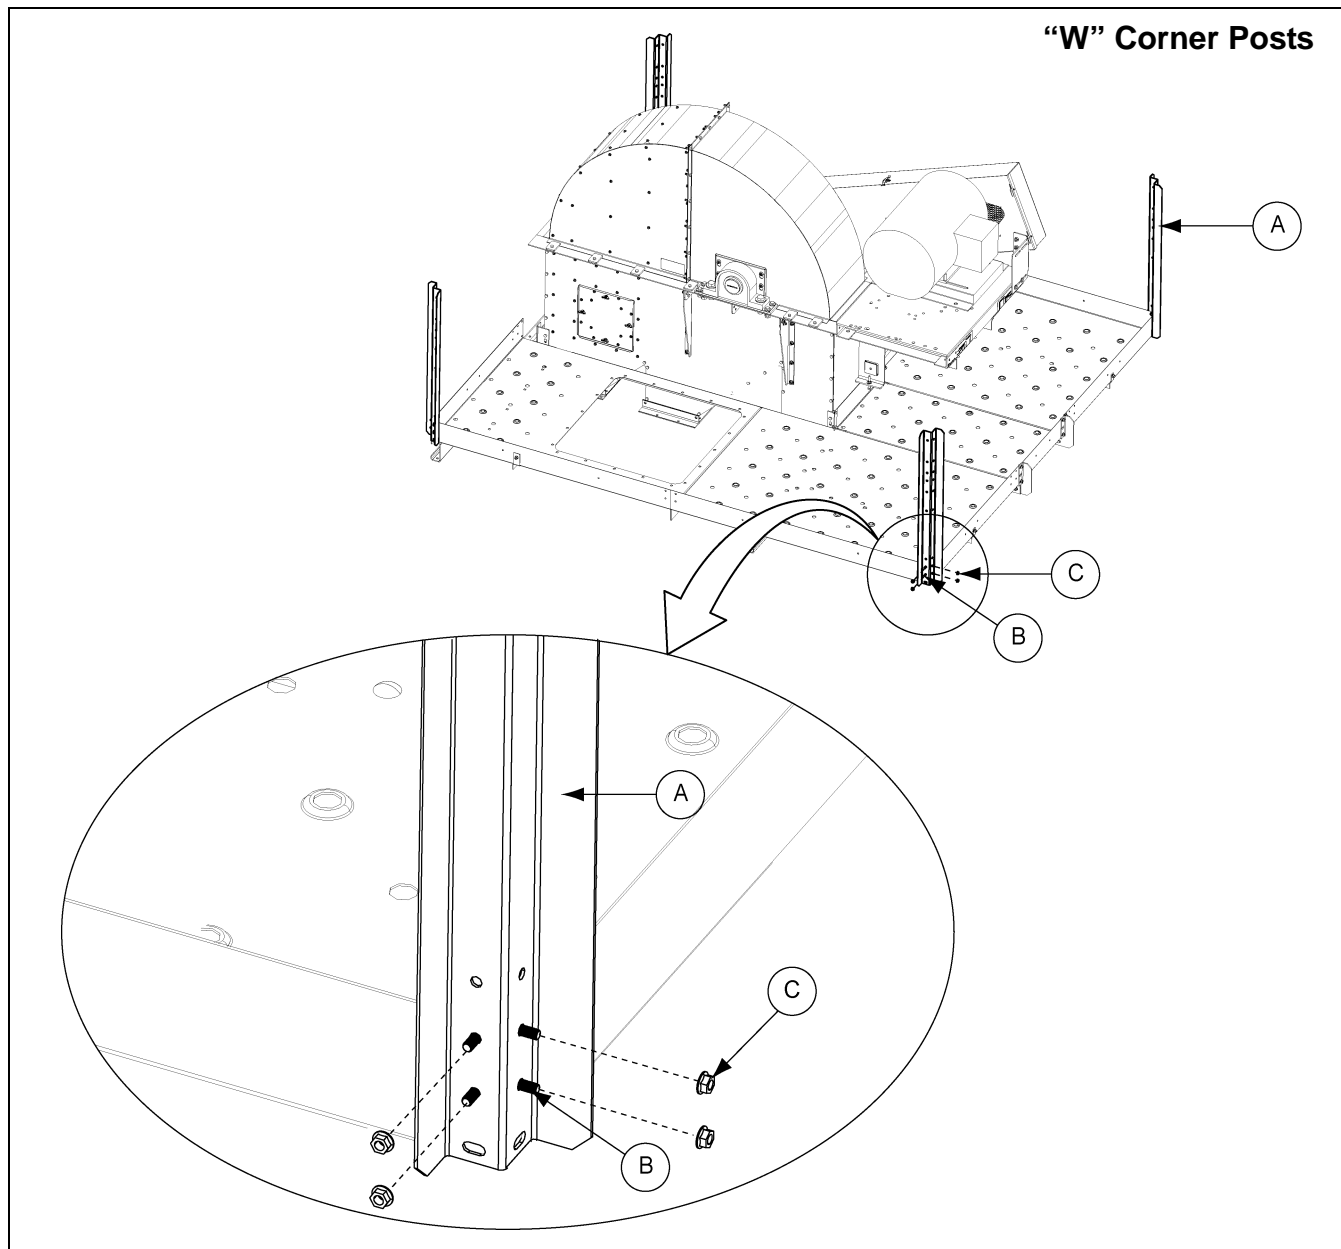

Figure 80
2. Attach each “W” corner post to decking using 5/16" x 3/4" flange bolts (S-6606) and 5/16" flange nuts (S-3611). Torque to standard specifications. *(See Figure 80.)*